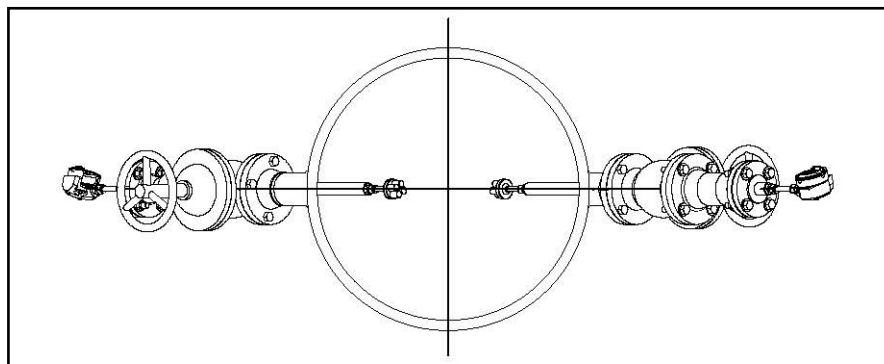

Figure 2: Diametrical Path Configuration
- A diametrical path configuration (the signal path forms a line through the pipe diameter (see *Figure 2* below).